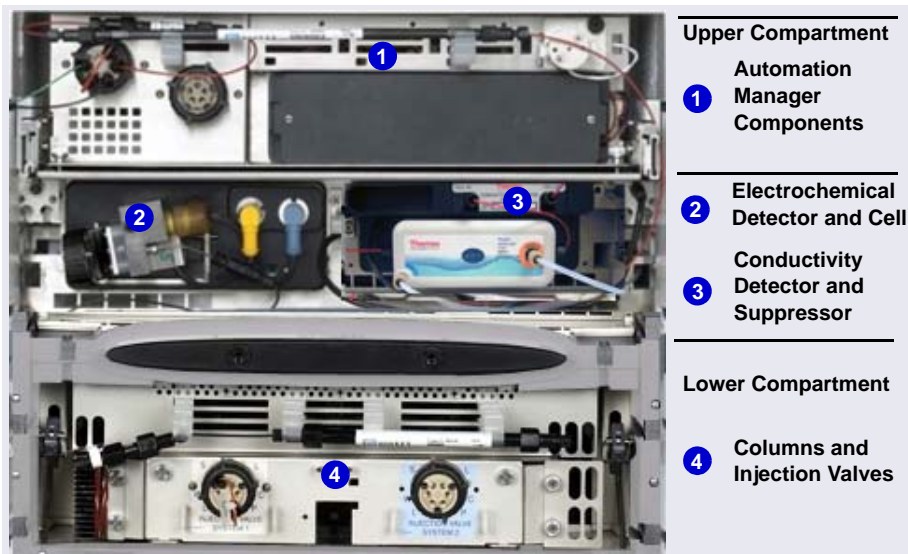

Figure 3-7. Example DC Interior View: Dual-Analytical System
Figure 3-7 is an example of the interior of the DC after the components for two analytical IC systems have been installed.
3. Install the analytical CD (P/N 079829) and/or the ED in the bottom half of the DC upper compartment (see Figure 3-7).